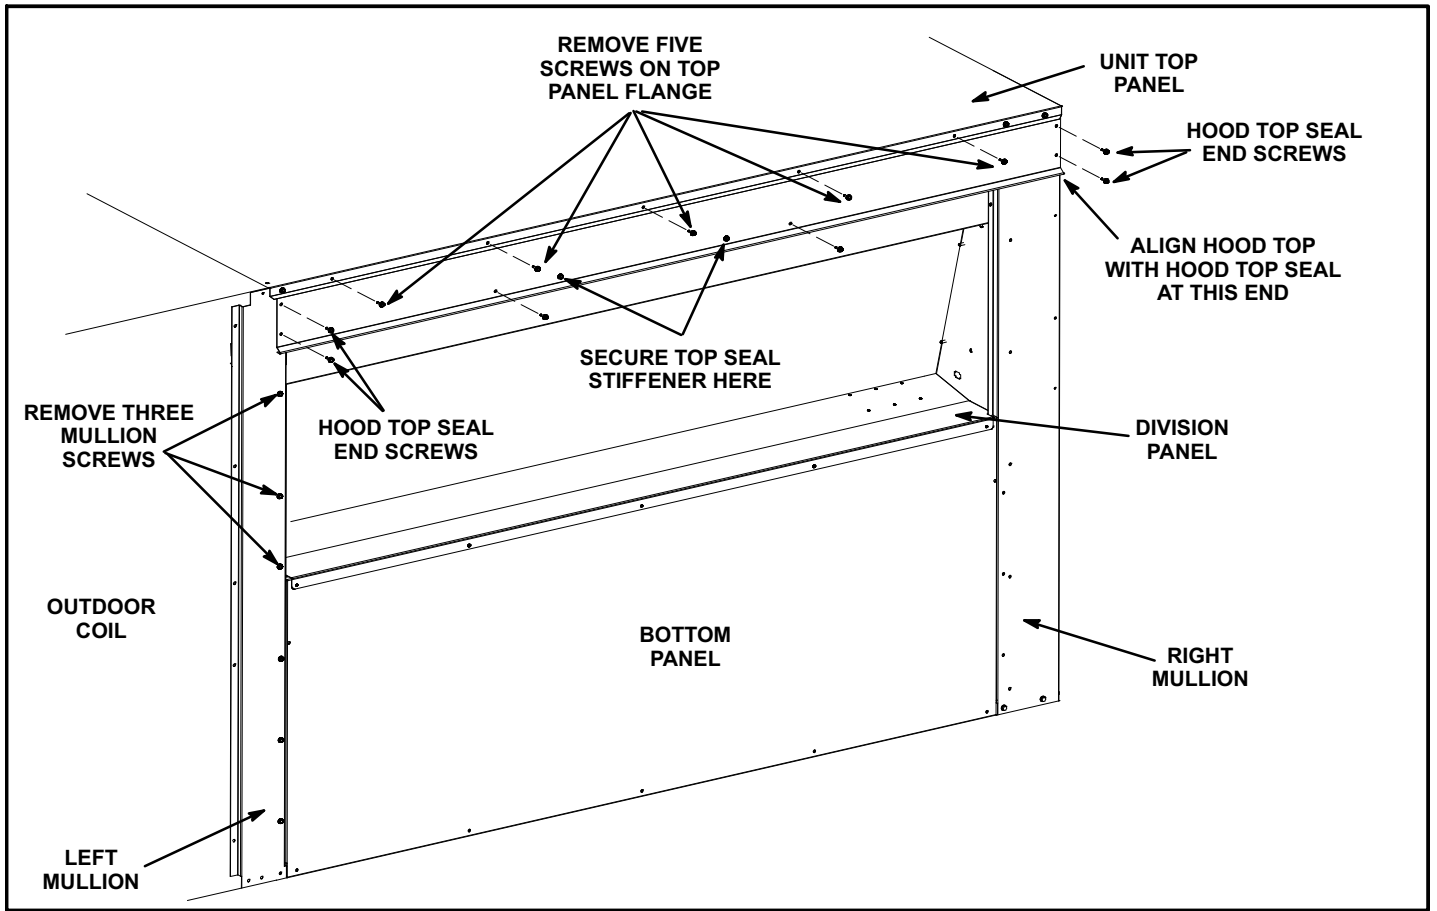

FIGURE 4
- 3- Slide hood top seal under unit cabinet top and secure using five retained top screws. Install, but do not tighten, the two screws on each end of the hood to seal. Refer to figure 4.
- 4- Remove and retain top three screws on the left mullion of the outdoor air section. See figure 4.